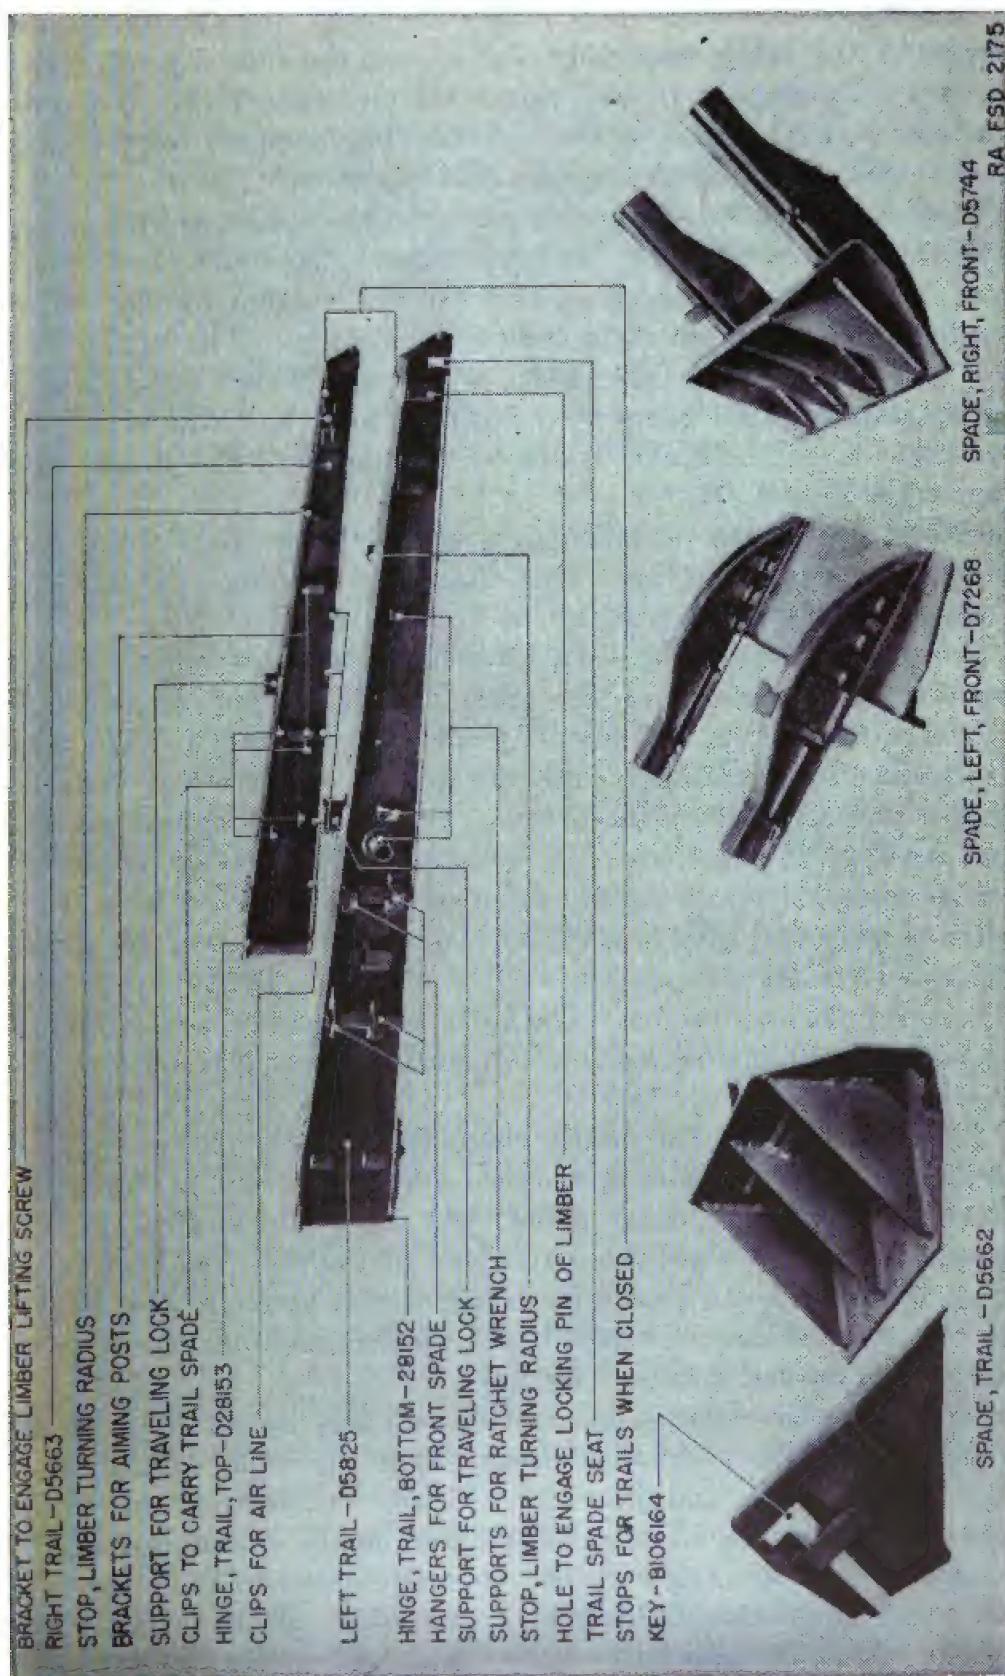

FIGURE 17.—Trails—outside view left trail; inside view right trail—and spades.
**16. Trails.**—The two fabricated steel trails are identical. The top and bottom members of the trails form the seats for the trail pins where they are attached to the bottom carriage. The trail pins are secured in position by threaded plugs. Fastenings for carrying the spades and accessories in travel position are provided (fig. 17).
*c. Operation of brakes*.—(1) Before starting the vehicle when connected to the gun, the air pressure must show at least 70 pounds on the dash gage of the prime mover in order that the brake system may be fully effective. Pressure should be checked from time to time when the vehicle is in operation and, should the air gage register a rapid drop in pressure, the brakes should be applied and held applied until the vehicle is brought to a full stop. A check of the air brake system should be made to determine the cause of this sudden drop in pressure.
(2) The emergency brake should never be used for parking purposes. Mechanical hand brakes are provided for this purpose.
(3) The best possible stop will be made when the first brake application is as hard as the speed of the vehicle and the condition of the road will permit, and then graduated off as the speed is reduced, so that at the end of the stop but little pressure remains in the brake chamber. Never apply the brakes lightly at first and increase the pressure as the speed diminishes. This would not only require more time but the final high pressure will produce a severe final stop.
(4) Do not “fan” the brake pedal, as this gives poor brake performance and wastes air pressure. “Fanning” does not increase the brake line pressure; rather it decreases both the air reservoir and brake line air pressure.
(5) The air brake is designed so that when the brake pedal is moved to the limit of the stroke, an emergency application results, which will stop the vehicle in the shortest possible time. The application should be made only in an emergency and not employed as ordinary braking service.
(6) In making a stop or in slowing down from any speed above the idling speed of the engine, allow the engine to remain in gear with the throttle closed to get the full benefit of its retarding effect, disengaging the clutch when the idling speed is reached. Ample braking power is available in the air system. However, by drifting and utilizing the retarding effect of the engine, the vehicle may be slowed down successfully without use of the brakes.
(7) In the event of a break between the prime mover and the carriage, keep the brakes applied on the prime mover until a stop is made. Hold the prime mover by means of the hand brake and close the cut-out cocks in the service and emergency lines to prevent further loss of air. After repairs on recouplings are made, open the cut-out cock and the brake system will automatically recharge. If it is necessary to move the carriage before recoupling the air connection, the reservoir drain cock must be opened to release the air brake on the bogie.
*e. To change from traveling to firing position.*—(1) Shut off the air at the prime mover, disconnect the air hose at the prime mover and the spade end of the trail, lock the ends of the hose together at the front and rear end of the limber, and place the dummy couplings on the ends of the air tubes on the trail (figs. 17 to 22, inclusive).